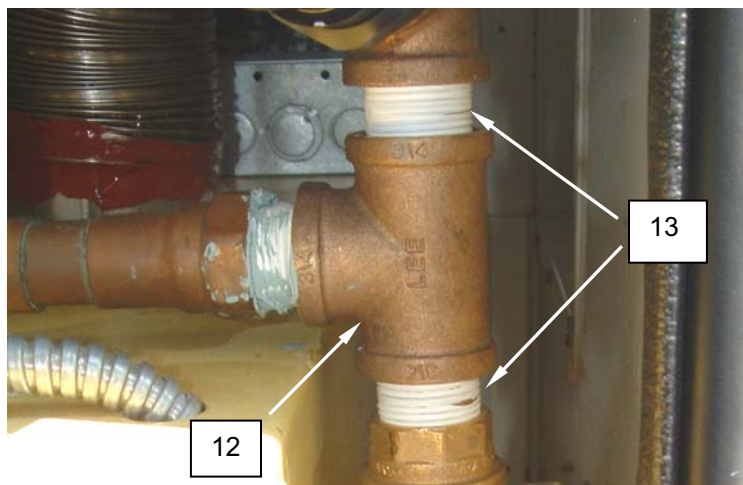

Figure 6. Replace Copper/Brass Pipe Fittings.
3. Use a pipe wrench to steady attached plumbing, and unscrew nipple (**Figure 6, Item 12**) or fitting (**Figure 6, Item 13**) to be replaced.
4. Apply pipe sealing compound to threads of replacement nipple (**Figure 6, Item 12**) or fitting (**Figure 6, Item 13**).
5. Use a pipe wrench to steady attached plumbing, and install replacement nipple (**Figure 6, Item 12**) or fitting (**Figure 6, Item 13**).